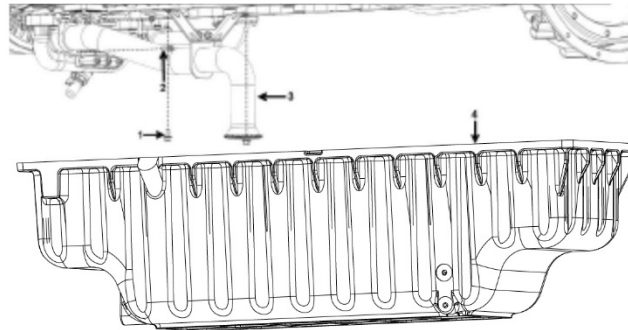

Figure 125.
1. Install the oil strainer by tightening both bolts (Figure 125, Items 1 & 2).